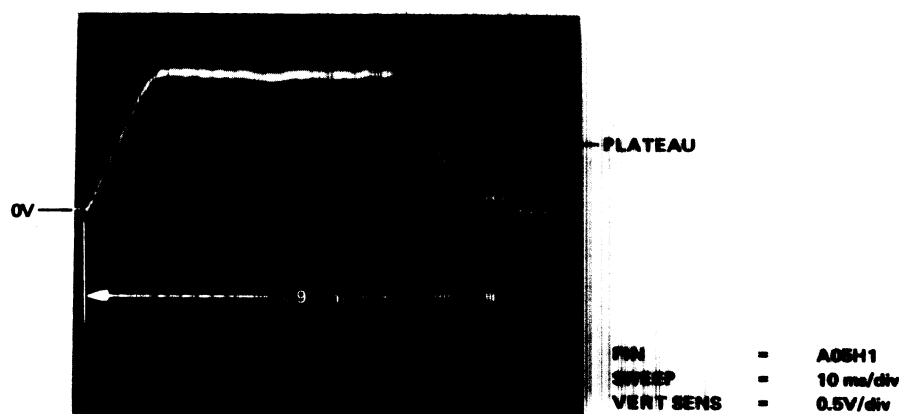

Figure 6-7 Full Stroke Waveform
- Observe A05H1 (VELOCITY) for a scope display as illustrated in Figure 6-7. The 0 V level of the profile must be reached in less than 90 ms from the start of the seek. In addition, there must be a definite plateau (constant voltage level) at the end of the seek. If this is not the case, recheck the Velocity Amplitude (VA) and the